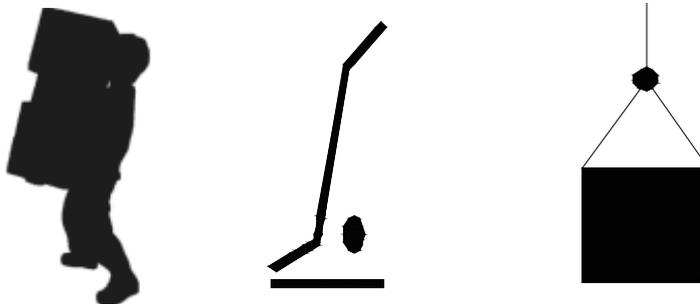

FIG 9-2
3) Product handling, generally using portable, car handling and lifting and moving, as shown in the figure 9-2.